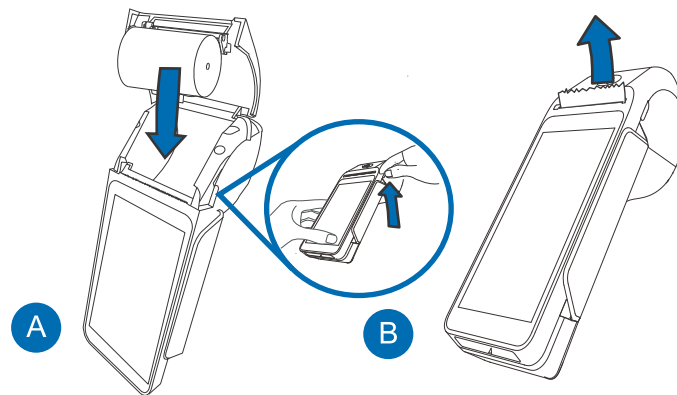

Figure 11 Steps to Install a Paper Roll in T650c
- A magnetic card reader built into the device for performing debit or credit card transactions. The card can be swiped from either direction. To ensure a proper read of the magnetic swipe card, insert the magnetic card from the side of the device as shown in Figure 11.
- To install a paper roll** **1** Hold both sides of the paper door, which is on the upper corner of the device and open the paper door by pulling outside (See below Figure 11).